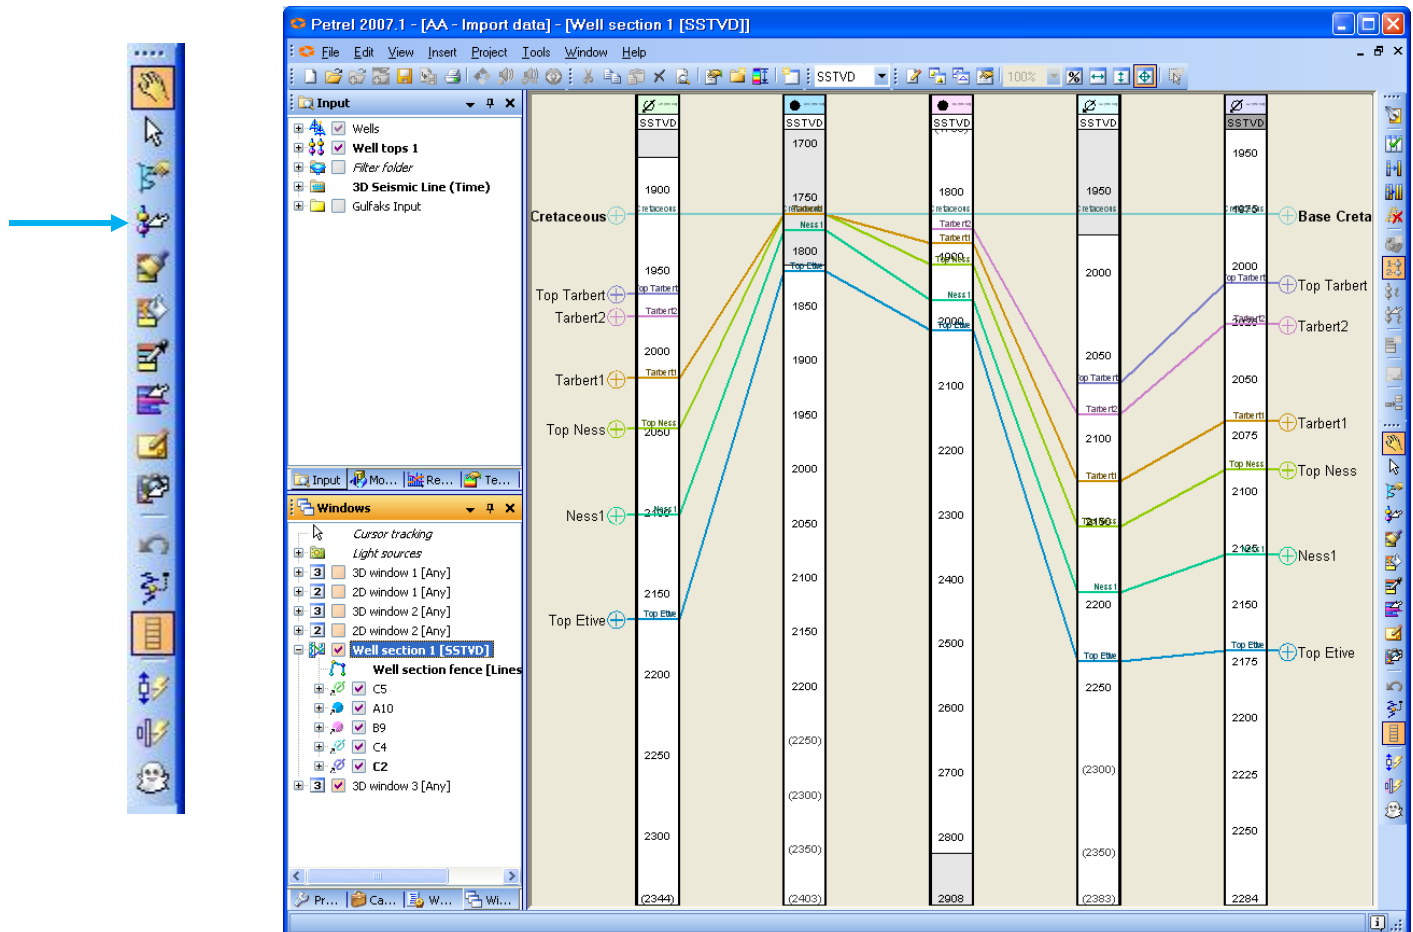

Fig. 10.21: Displaying existing Well Tops in a Well Section window
2. Insert a new well top by clicking on the position where it should be inserted. Note that if one of your well tops in the Well Tops folder is active, the new well top will create as the same name as shown in Fig. 10.21.